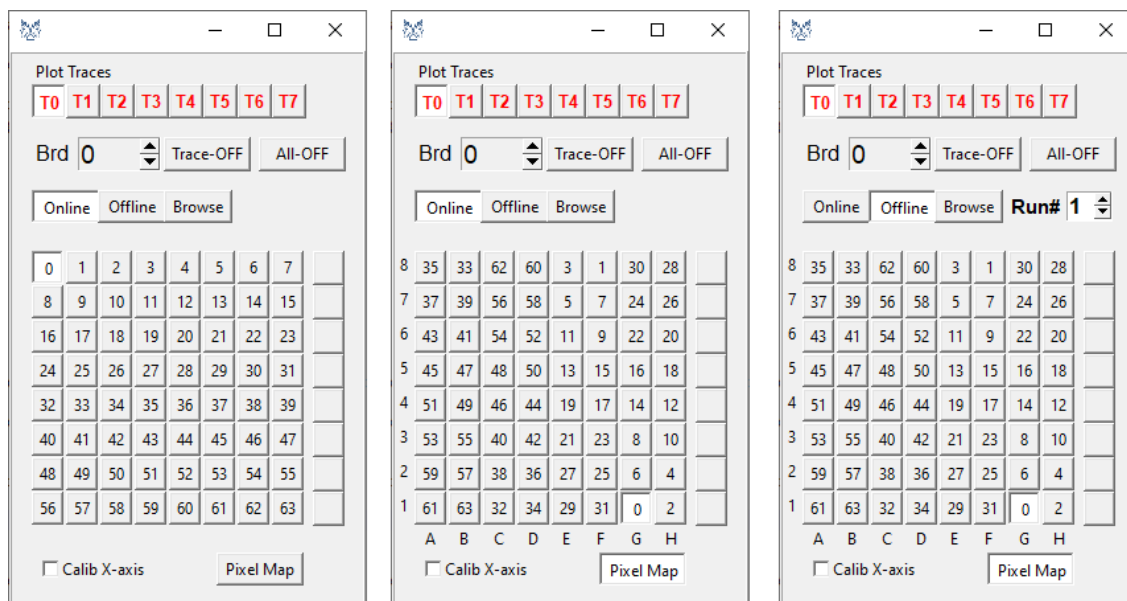

Fig. 3.7: Plot Traces window with the Pixel Map button disabled (on the left), enabled (in the middle) and with the Offline button enabled (on the right).
The Plot Traces command  allows the user to access the Plot Traces window (see Fig. 3.7) to manage the traces to be visualized in the gnuplot window. A maximum of 8 traces from different channels can be visualized at the same time.
- **Run#:** The command is active only when the Offline option is enabled in the Plot Traces window (see **Fig. 3.7**) and allows the user to select the ID of a previously saved run whose spectrum need to be visualized.
- **Pixel Map:** The button, if pressed, allows the user to visualize the correspondence between each channel and the physical position of the correspondent SiPM in a 8×8 SiPM matrix. For instance (see **Fig. 3.7** on the right), channel 50 is associated to the position D5 and thus corresponds to one of the central SiPMs of an 8×8 SiPM matrix. The pixel-channel association is loaded by Janus 5202 from the "pixel_map.txt" file in the "bin" folder.
To select the output from the Citiroc-1A associated to channels from 0 to 31 the user has to select any channel from 0 to 31 for the first trace in the Plot Trace window (see **Fig. 3.7**). The same instructions can be followed to select the output from the other Citiroc-1A chip.
- *2D-TrgRate*. Two-dimensional histogram (heat map) of the counts from all enabled channels. The pixels have coordinates from A to H for the X axis and from 1 to 8 for the Y axis. Pixel "A1" is the bottom left, "H8" is the top right. The correspondence between pixels and physical channels (from 0 to 63) is established on the basis of a text file named "pixel_map.txt" in the "bin" folder. The correspondence is visible also in the 2D plot (each pixel contains the channel ID number) or in the Plot Traces window (see **Fig. 3.7**) by pressing the Pixel Map button. If the "pixel_map.txt" file is not found, the default correspondence is A1 = CH0, A2 = CH1, ..., H8=CH63. The Z axis of the 2D plot displays the count rate (expressed in cps) of each channel.